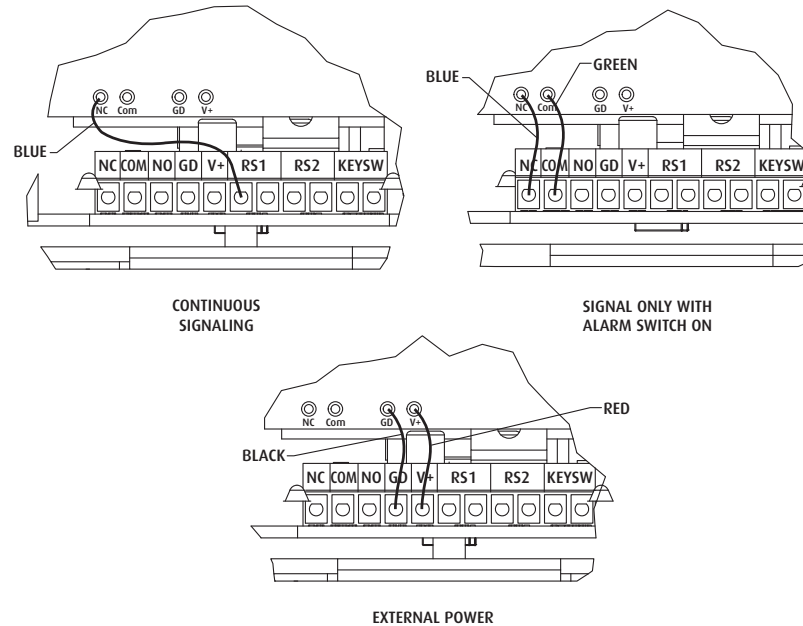

Figure 2
- (Fig. 2) Configure wires from transmitter PCB to Stopper PCB.